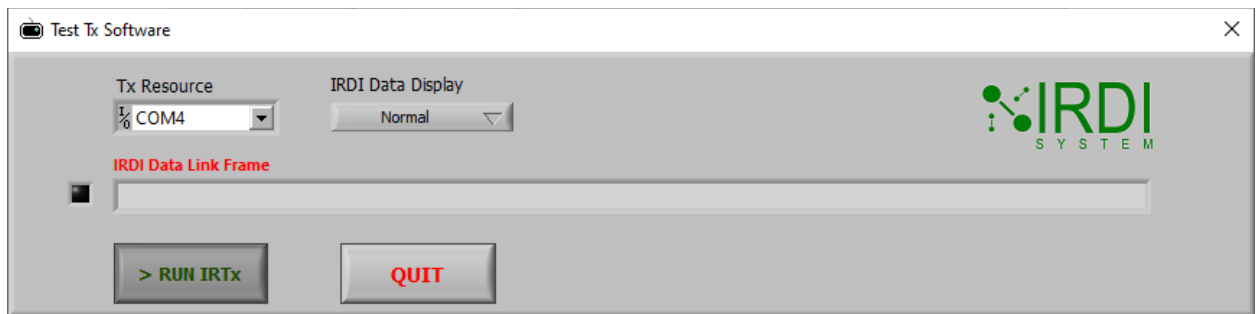

FIGURE 5-4: INITIAL PAUSED STATE
STEP 1	Click on the "> Run IRTx" button (see Figure 5-4). The text on the button will change to " Pause IRTx". The indicator light next to the "IRDI Data Link Frame" will flash green. The transmitter's red indicator will begin flashing.